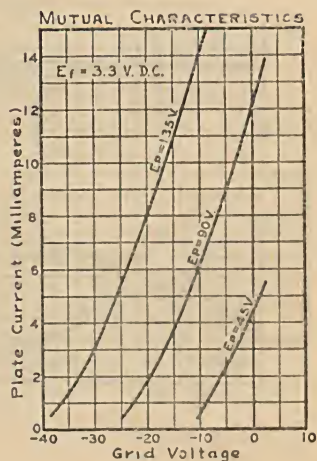

Fig. 7
**Mutual Characteristics**—Fig. 7 shows a family of grid voltage-plate current curves at various plate voltages.